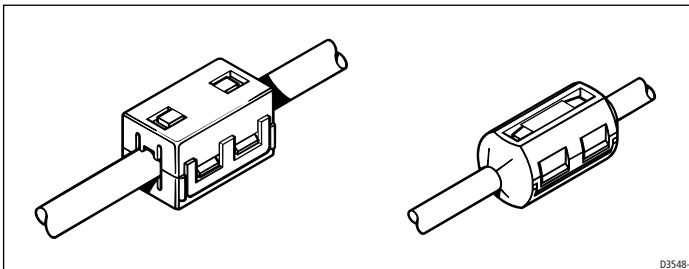

Figure 2: Typical suppression ferrites
- Additionally, the drive may face either way as you can correct the steering direction by reversing the polarity of the motor connections at the course computer (see *Figure 2*).